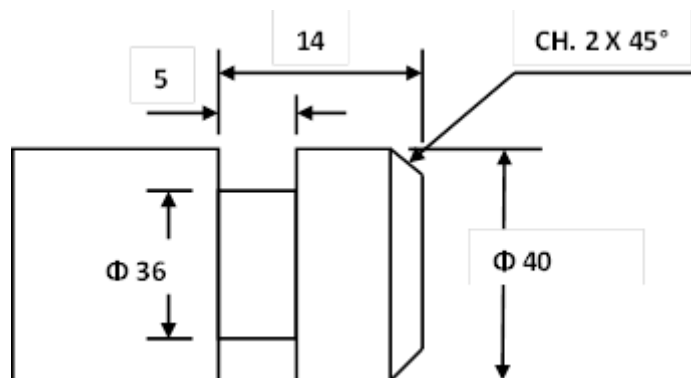

Fig. Q. 1b
b) Design a circular form tool for machining 5 mm wide groove and 2 X 45° chamfer on workpiece shown in **Fig. Q. 1b**. The work material is steel with hardness 250 BHN. The centre of the tool is 4 mm above the centre of the work. Outside diameter of the form tool is 50 mm. **[06]**